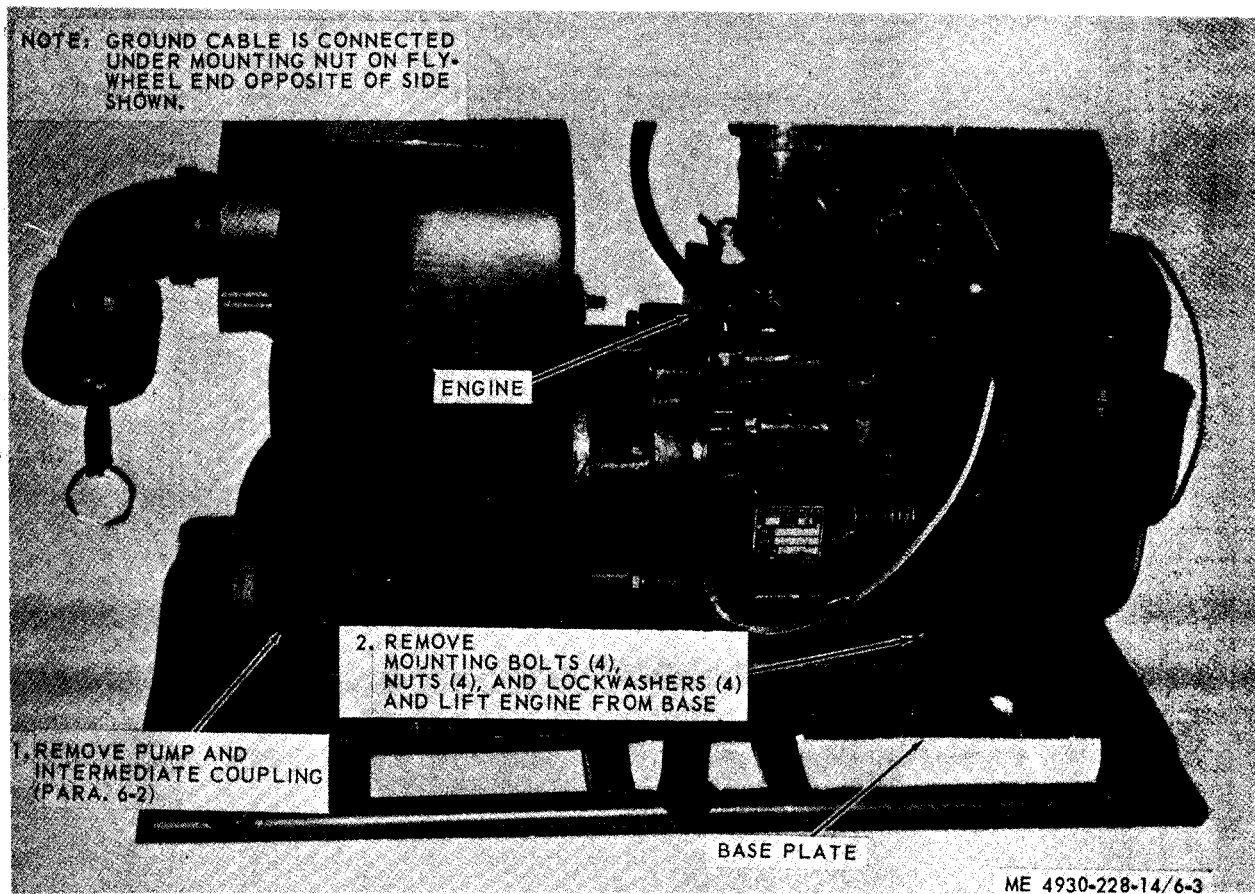

Figure 6-3. Engine assembly removal.
(1) Remove pump and intermediate coupling (para 6-2).
(2) Remove fuel tank (para 4-24).
(3) Refer to figure 6-3 and remove the engine assembly.
(1) Refer to figure 6-3 and install the engine assembly.
(2) Install the fuel tank (para 4-24).
(3) Install the pump and intermediate coupling (para 6-2).